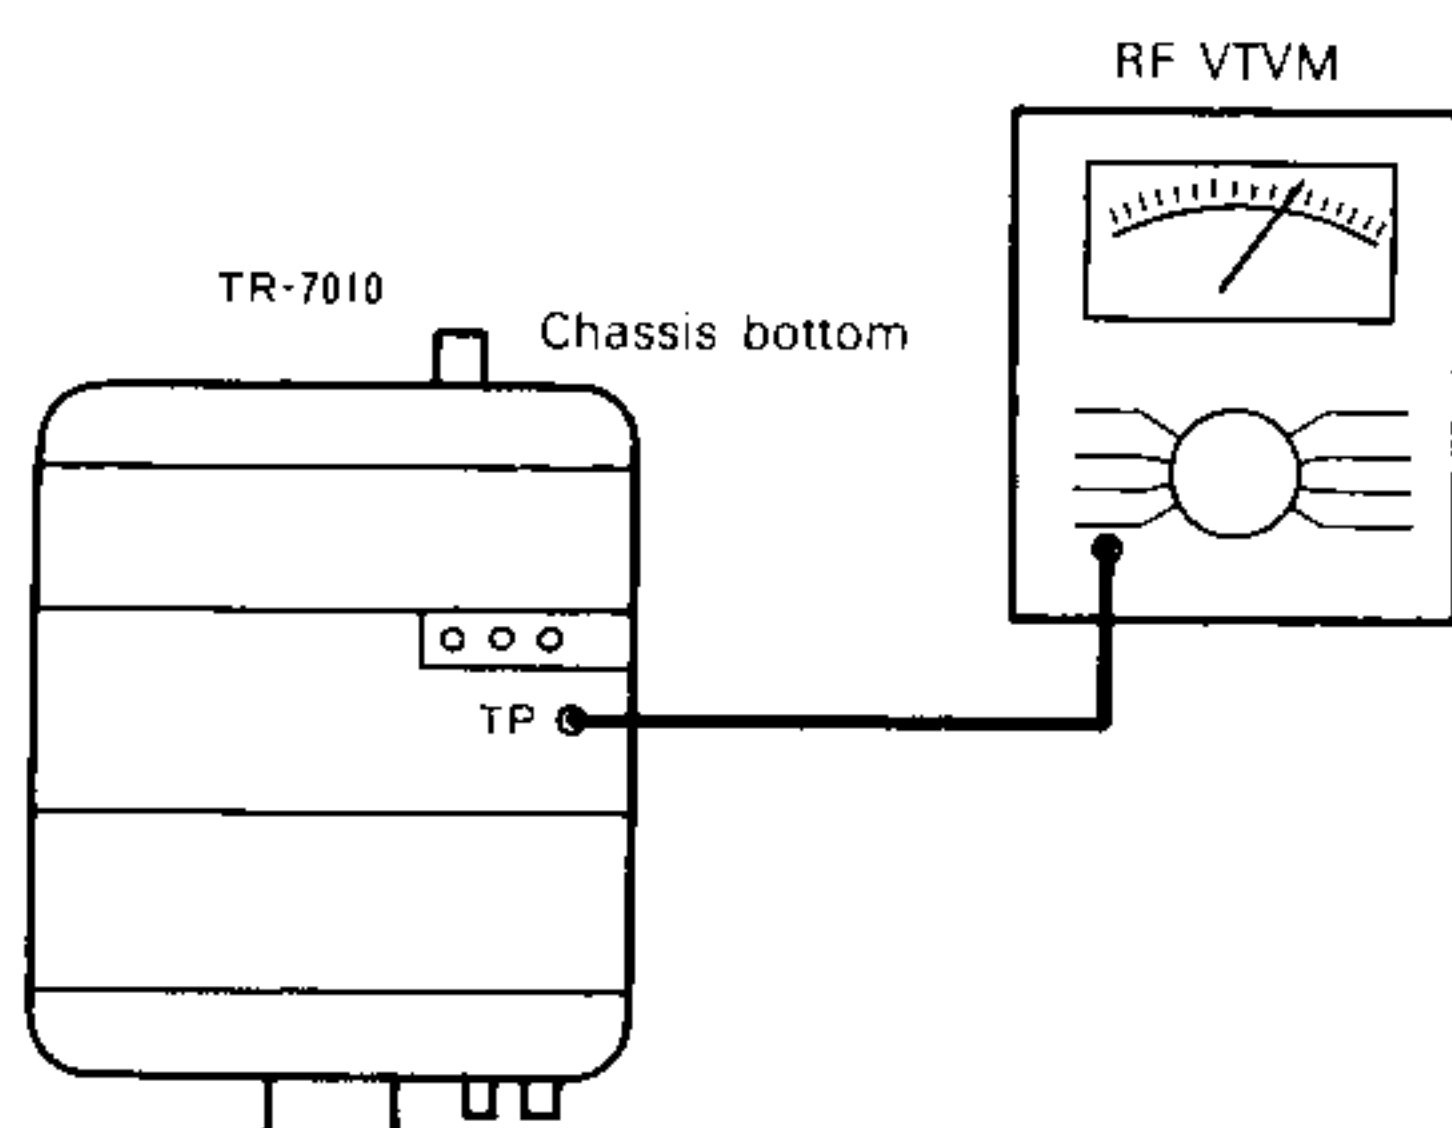
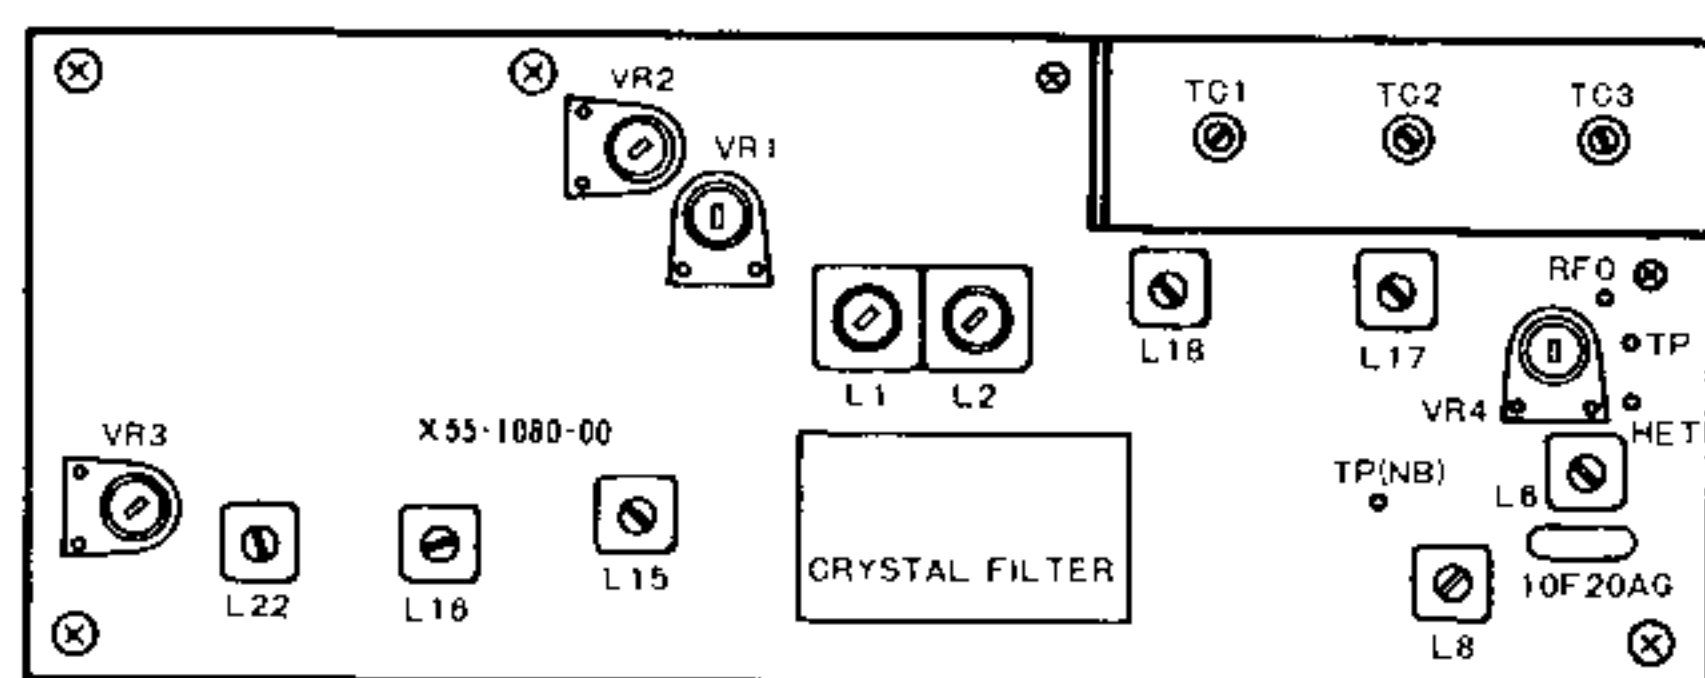

FIG. 14 RX, HET VOLTAGE SETTING
FIG. 15 RX UNIT
- (1) Disconnect all the measuring instruments. Set the channel indicator to "00" and the BAND switch to 144.2MHz.
- (2) Connect RF VTVM to the TP terminal on the RX unit (see Fig. 14 and Fig. 15).
- (3) Adjust VR4 on the RX unit until the voltage reaches 0.3V.
- (1) Adjust VR2 on the RX unit (Fig. 15) until the S meter indicates the exact "0" position.
- (2) Using the input from SSG, tune in to about 144.200MHz and fine adjust VXO volume so that AF signal of about 1.000Hz is obtained on the oscilloscope.
- (3) Slowly decrease the input from SSG and obtain a maximum reading on AF VTVM by adjusting L1 → L2 → TC3 → L6 → L8 → L15 → L16 → L22 on the RX unit (Fig. 15). This adjustment should be repeated several times.
- (4) With the SSG input set to the minimum sensitivity (0dB), precisely adjust TC3 for maximum reading on AF VTVM.